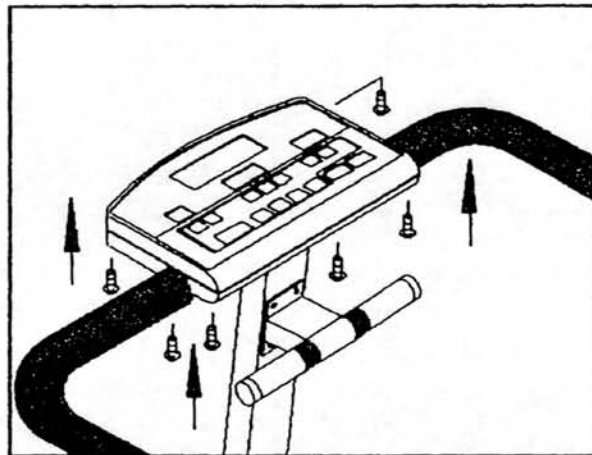

Fig.16-4
4. Assemble the COVER OF PANEL by securing all screws (see fig.16-4)